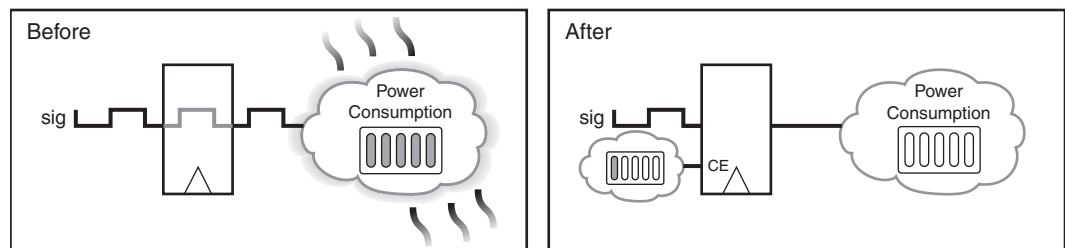

Figure 4-1: Intelligent Clock Gating Reduces Switching Power Consumption
These algorithms analyze the logic equations to detect, for each clock cycle, sourcing registers that do not contribute to the result. The software then utilizes the abundant Clock Enable (CE) resources available in the FPGA logic to create fine-grained gating signals which neutralize useless switching activity (see Figure 4-1). This intelligent clock and data gating is controlled with the **map -power high** option. Total core dynamic power reduction in excess of 15% is possible and in most cases the additional gating logic inserted does not affect performance.